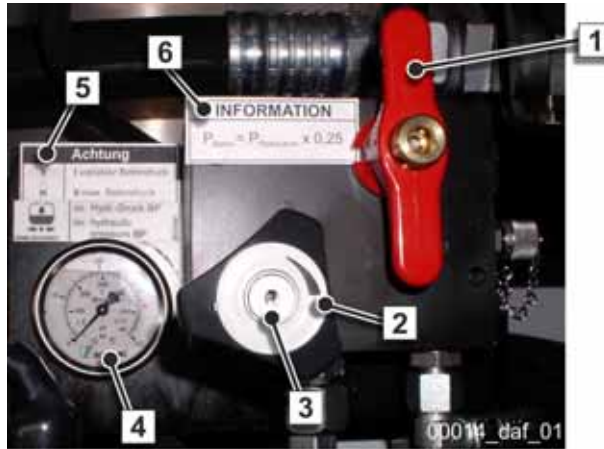

Fig. 644
The hand-wheel (2) (**Fig. 644**) is locked. The key is located in the right-hand control cabinet for truck-mounted concrete pumps.
Only change the position of the ball valve (1) (**Fig. 644**) if your SCHWING pump is set to the minimum delivery rate!
3. Move the ball valve (1) (**Fig. 644**) into the "I variable pumping pressure" position.
5. Now observe the pressure gauge on the VarioPressure accessory (4) (**Fig. 644**).
6. Unlock the hand-wheel using the key (3) (**Fig. 644**).
If you would like to switch your SCHWING pump back to maximum pressure, move the ball valve (1) (**Fig. 644**) from VarioPressure back to the “II max. pumping pressure” position.